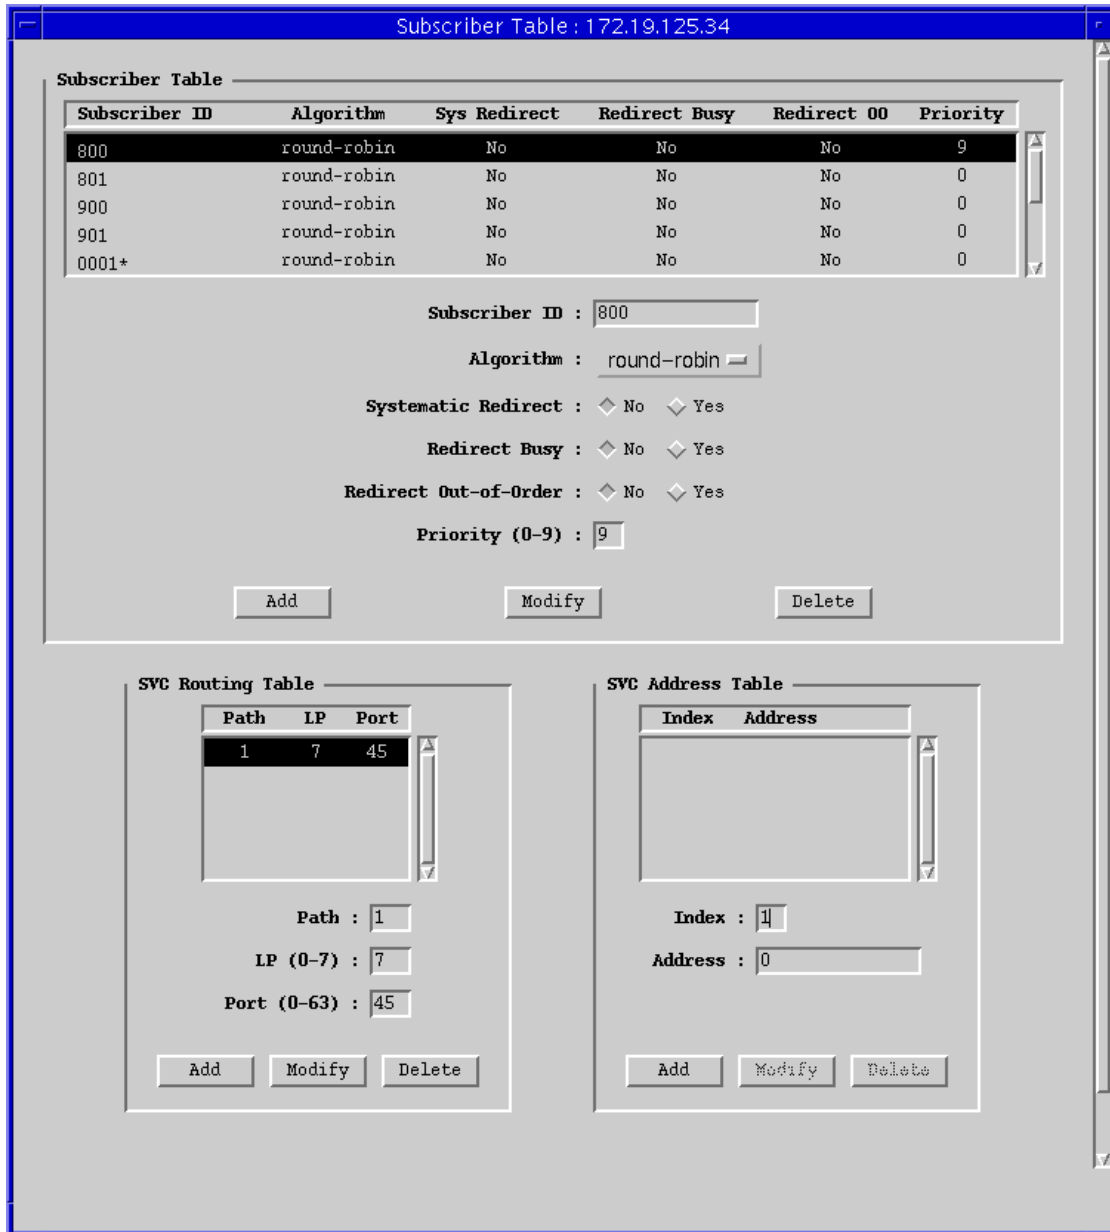

Figure 4-1. The Subscriber Table Window
2. Drag down to **Subscriber Table**, and release. The Subscriber Table window, Figure 4-1, will appear.